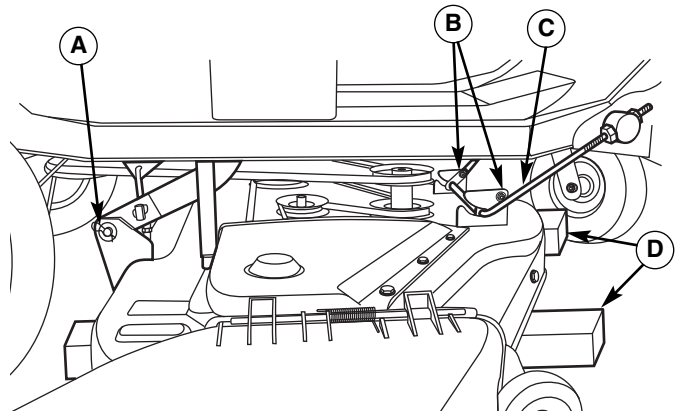
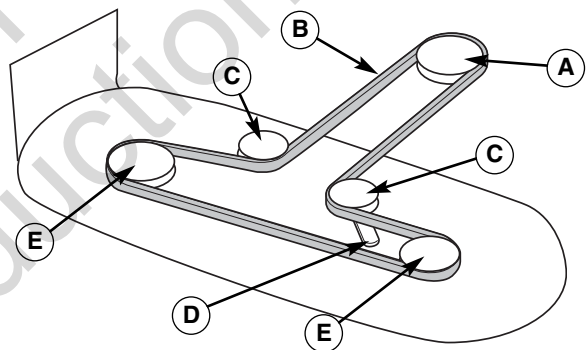

Figure 12. Mower Hitch Components - 42" Decks
Figure 13. Mower Belt Routing - 42" Decks
3. Use the mower belt release lever (D, Figure 13) to release belt tension. Remove the mower belt (B) from engine pulley (A).
6. Place 4x4 wood blocks (D, Figure 12) under the front and rear lip of the mower deck to securely support it.
9. Remove the hair pin clip (A) securing the rear mower lift arm. Separate the lift arm from the mower deck. Repeat on both sides of the mower.
10. Remove the hitch rod (C) from the hitch bracket.
1. Slide the mower deck under the right side of the rider. Slide the mower forward and hook the front hitch rod (C, Figure 12) to the front mower deck hooks.
2. Slide the mower deck backwards and connect the rear lift arms to the mower deck. Secure with hair pin clips (A).
4. Use the cutting height switch to raise the mower until it is no longer resting on the 4x4 wood blocks (D).
5. Turn the ignition switch OFF and remove the key. Remove the 4x4 blocks (D).
6. Use the mower belt release lever to release mower belt tension, and install the belt as shown in Figure 13.